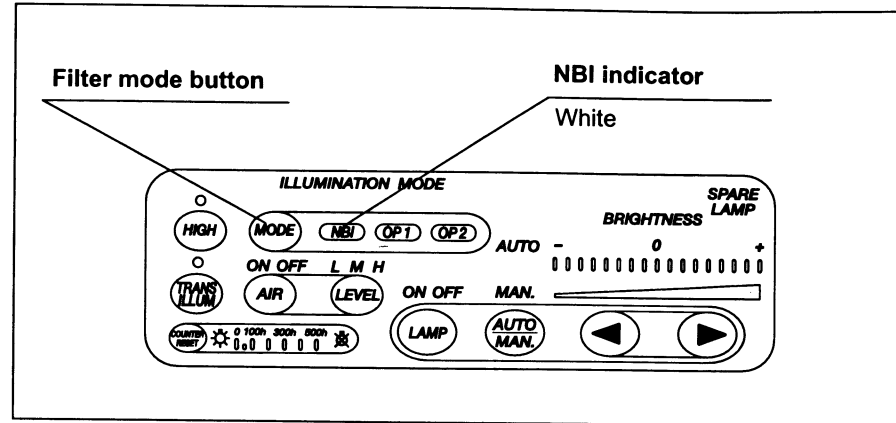

Figure 4.12
- Press the filter mode button. The color of the "NBI" indicator turns white (see Figure 4.12).
- In Figure 4.12, NBI observation is active.